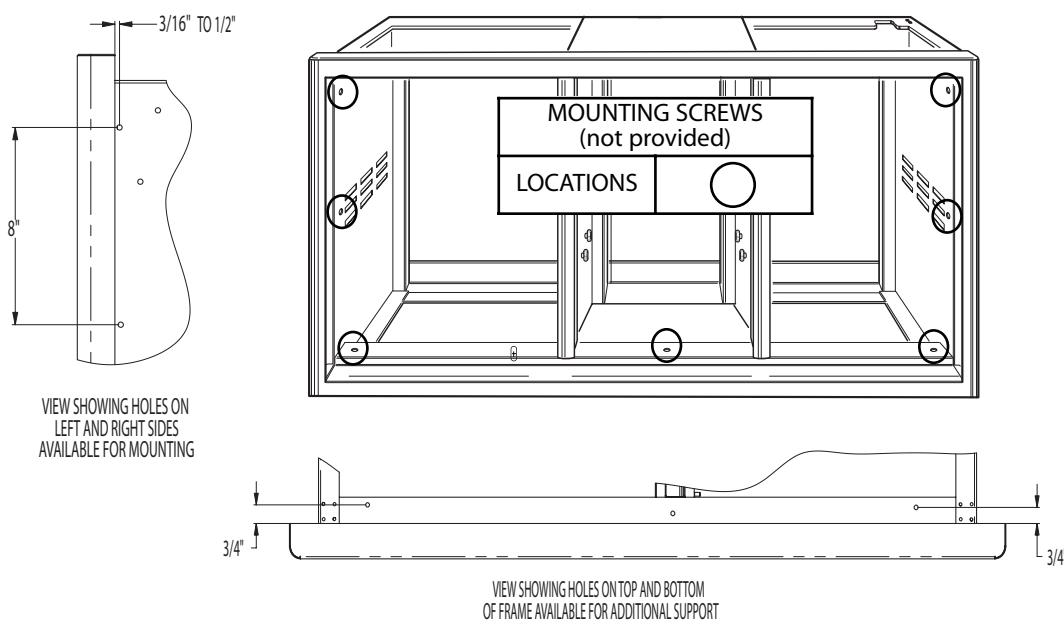

Fig. 9
- Locate mounting holes on the frame (Fig. 9 and views). Secure the unit using screws suited for the type of cabinet material.